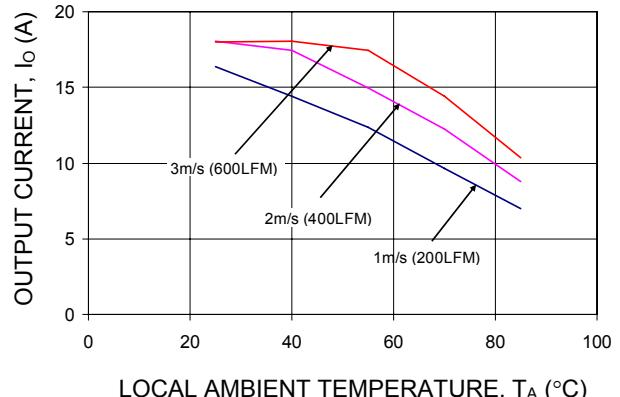

Figure 14. Output Current Derating for the QBW018A0B in the Transverse Orientation with no baseplate; Airflow Direction from Vin(+) to Vin(-); Vin = 48V
Note that the natural convection condition was measured at 0.05 m/s to 0.1 m/s (10ft./min. to 20 ft./min.); however, systems in which these power modules may be used typically generate natural convection airflow rates of 0.3 m/s (60 ft./min.) due to other heat dissipating components in the system. The use of Figures 14 - 15 are shown in the following example:
Determine required airflow (V) (Use Figure 14):